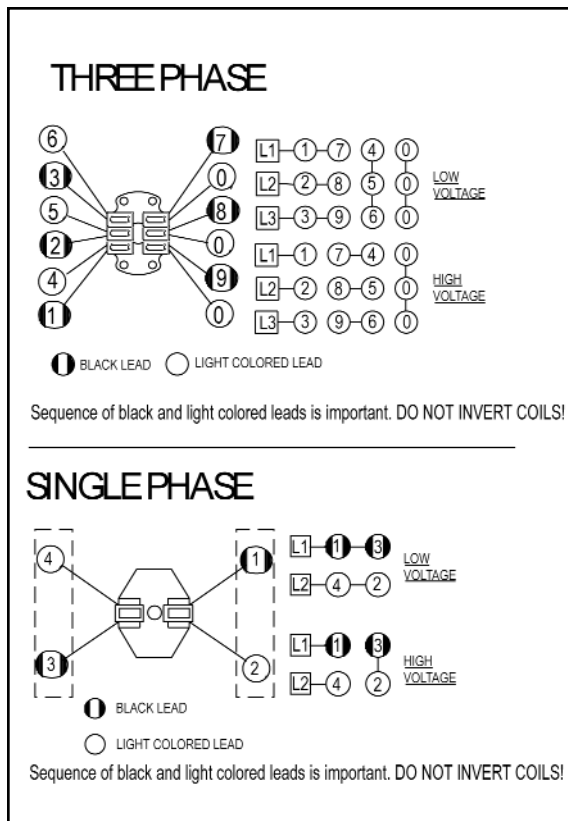

Figure 2
5. Connect coil leads per appropriate wiring diagram in Figure 2 and replace cover.
When installing coils, it is very important to follow EXACTLY the sequence of black and light colored leads as shown in wiring diagram (Figure 2). The brake will not operate properly unless coils are all in the correct position.